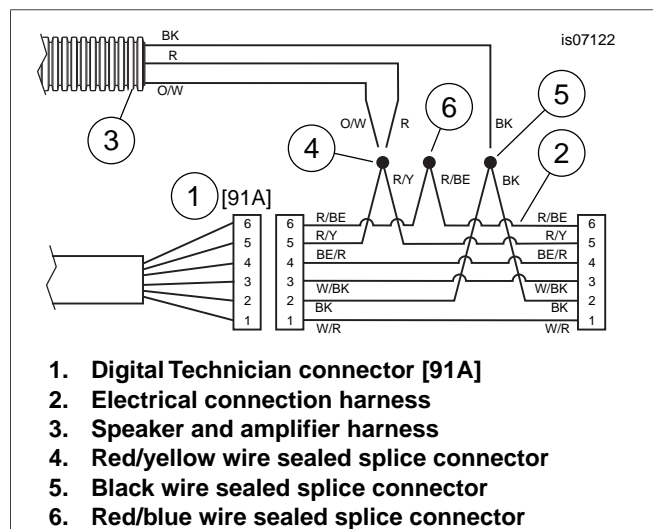

Figure 4. Wiring Diagram, Speaker/Amplifier Harness to Electrical Connection Harness
- a. See Figure 4. Locate the Digital Technician connector [91A] (Item 1, a gray six-way Deutsch connector with a rubber boot) under the seat. Place the Electrical Connection Harness (2) at the Digital Technician connector, but **DO NOT** connect them at this time.
- b. Route the speaker and amplifier harness (3) wires over to the Electrical Connection Harness. Cut the speaker and amplifier wires to a suitable length to easily reach the sealed splice connectors (4 and 5) on the Electrical Connection Harness.
- c. Splice both the red and the orange/white speaker and amplifier wires to the **red/yellow** wire sealed splice connector (4) in the Electrical Connection Harness.
- d. Splice the black speaker and amplifier wire to the **black** wire sealed splice connector (5) in the Electrical Connection Harness.
- f. Use the heat gun or heating device to seal the open end of the sealed splice connector (6) on the **red/blue** wires in the Electrical Connection Harness.
If wire harness (part no. 69200722) was previously spliced, cut off existing splices. See Figure 4 for multiple splice configuration.